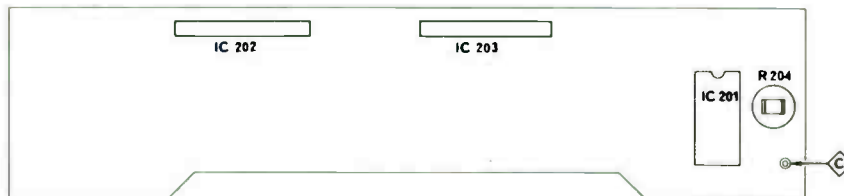

Fig. 7
6. Alignment location details: See Fig. 7, 8.